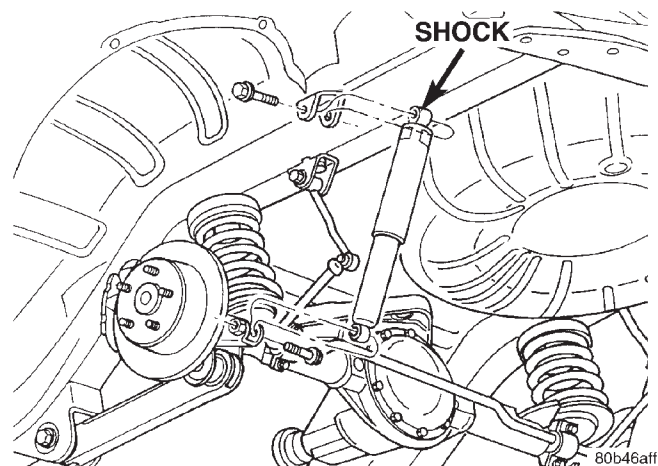

Fig. 2 Shock Absorber
(2) Remove the upper nut and bolt from the frame bracket (Fig. 2).
(3) Remove the lower nut and bolt from the axle bracket. Remove the shock absorber.